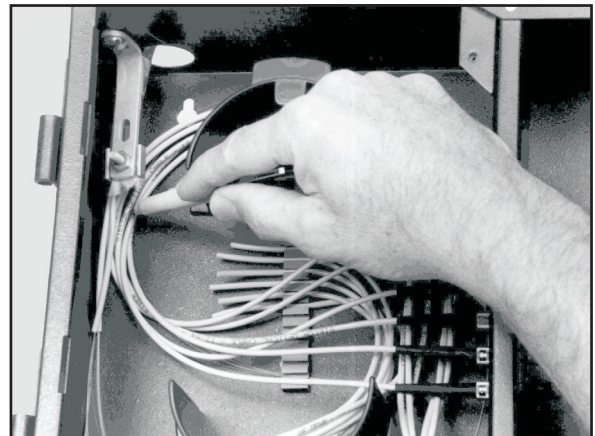

FIGURE 4 - MARK PIGTAILS
- 7.05 Mark the jacket of each of the pigtails at a point 2" beyond the bending radius. (as shown in Figure 4)